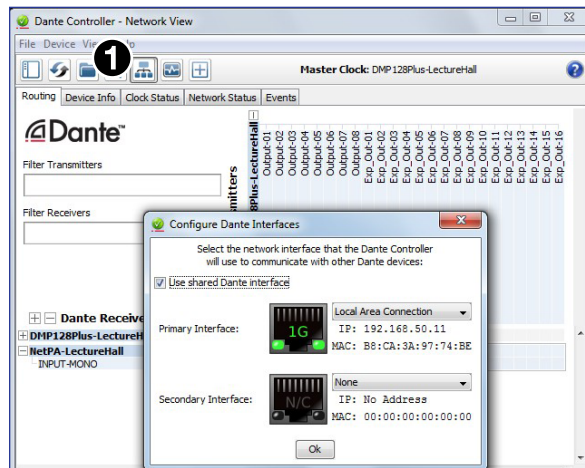

Figure 28. Configure Dante Interfaces Dialog Box
1. Open the **Configure Dante Interface** dialog box by clicking the **Choose a Dante Interface** icon  on the Dante Controller main screen (see figure 28, ①). Be certain the correct LAN connection is selected (the PC LAN port physically connected to the AT network) and note the IP address.